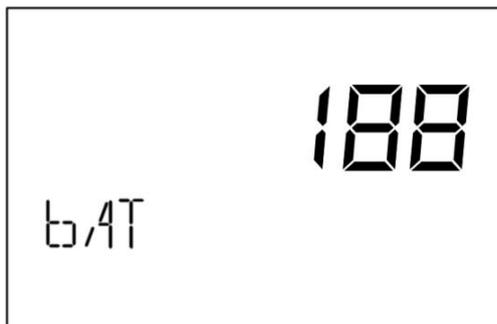

Figure 19
2) Press and hold the number keys on the left to enter the value you want. For example, enter the value "188" as shown in Figure 19 below.